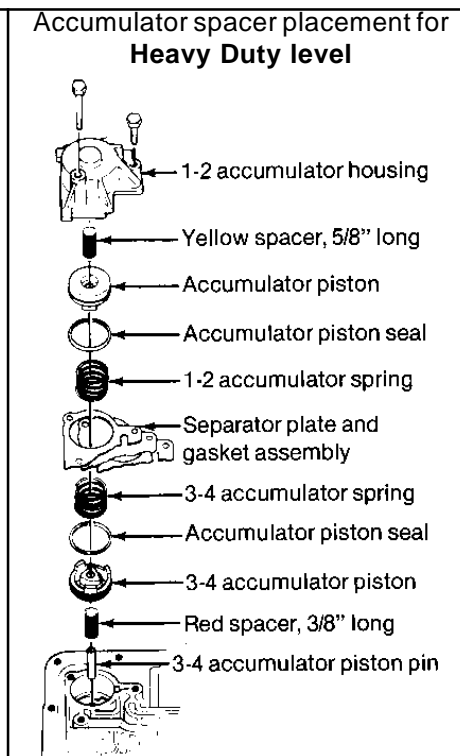

Figure 10
**STEP 5.** Beginning mid 1987 model year, TH-700's have an auxiliary valve body located where earlier models have a cover plate (See Fig. 2.) Remove the cover plate or auxiliary valve body. Be careful not to drop the check ball located in the auxiliary valve body (See Fig's. 8, 8a, 8b, & 8c) Remove the 1-2 accumulator housing while holding the separator plate up to the case. Then slowly lower the separator plate and retrieve the check balls located above the plate. Make note of the **color** and **location** of the 1-2 and 2-3 accumulator springs for correct reassembly (See Fig. 10.) Remove all old gasket material from these parts. **Note: Early 1982 TH-700's had a support plate located under the 1-2 accumulator housing.** If your transmission is fitted with this plate, carefully save the gasket as you will have to re-use the gasket upon reassembly (Gasket GM P/N 8642129 is not included in kit.)
**STEP 13. Heavy Duty Only;** Place the 3-4 accumulator pin in the case. Over the pin place the **RED** (3/8") spacer sleeve, accumulator piston and spring (spring is installed at step 17.) Use a dab of grease or petroleum jelly to hold components in place (See Fig. 10) Proceed to step 15.
**STEP 15. Heavy Duty Only;** Remove the spring and piston from the 1-2 accumulator housing (See Fig. 10.) Install over the pin the **YELLOW** spacer, piston (notice orientation) and spring. Proceed to step 17.